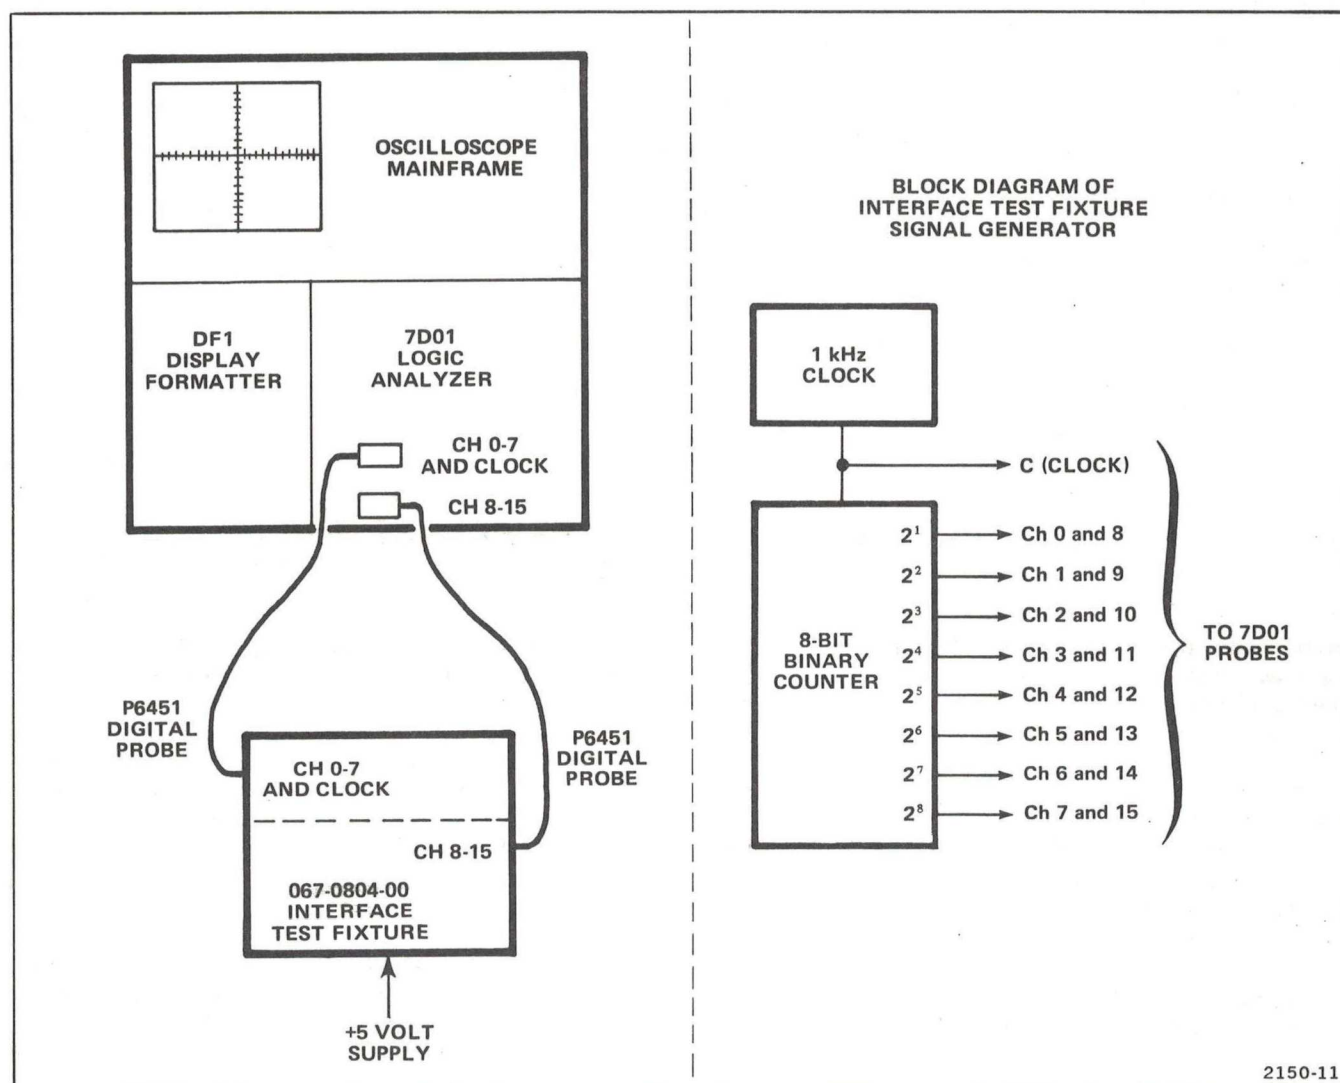

Figure 2-6. Test setup for Functional Check procedure.
2. Connect the Interface Test Fixture to the 7D01 as shown in Figure 2-6.